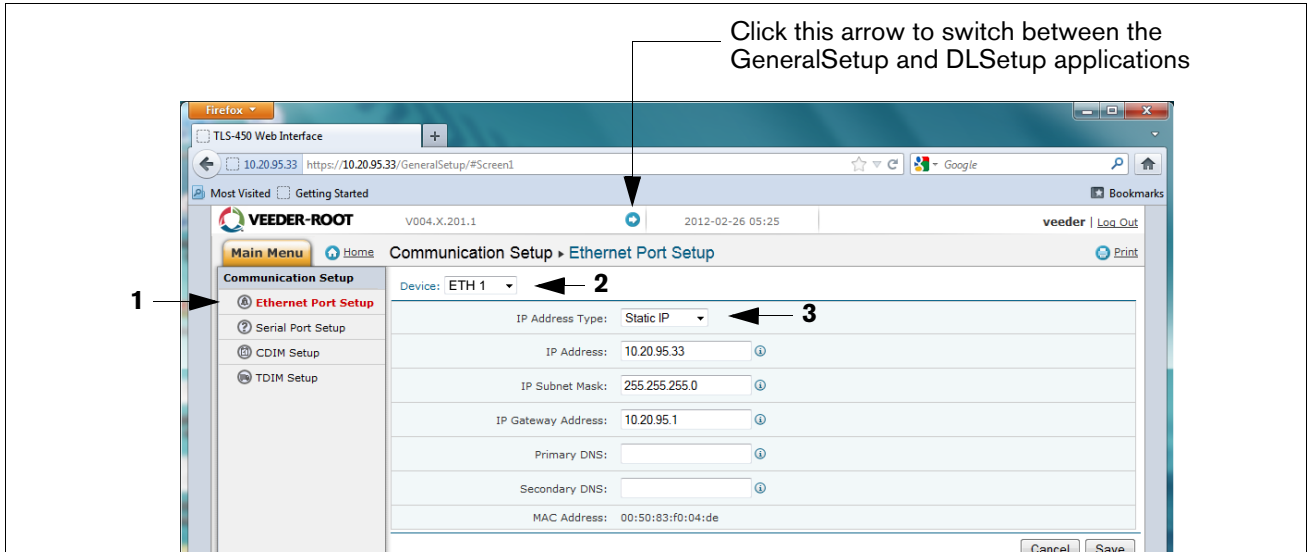

Figure B-4. Ethernet Port Setup
NOTE: The Datalogger simultaneously runs two applications; one programs the general communication protocols (GeneralSetup), and the other programs how the Datalogger gathers its information (DLSetup). Pressing the blue arrow at the top middle of the screen will toggle you between the two programs (see Figure B-4). After entering selections/changes to fields on any page, click the Save button to save your entries, or Cancel to discard them. Programming screens used to setup the Datalogger are listed in Table B-2.
- On the "Communication Setup" page (see Figure B-4), click on "Ethernet Port Setup" (1) and select the Device type "ETH 1" (2) from the drop-down menu. In the IP Address Type field (3):
If the site is using a static IP address, select "Static IP"; and enter the IP address assigned by your network administrator. Once this is complete, click the "Save" button to keep these settings (see example in Figure B-4).